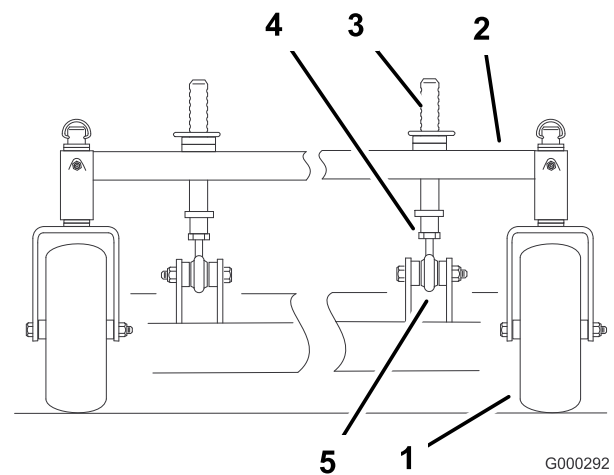

Figure 59
To change the front-to-rear pitch, the front height-of-cut posts can be adjusted (Figure 59).
To raise the front of the deck, loosen jam nut and rotate the front pin clockwise (Figure 59).
To lower the front of the deck, loosen jam nut and rotate the front pin counter clockwise (Figure 59).
- Measure at **C** and **D** locations (Figure 59) from a level surface to the cutting edge of the blades.
- Tighten the jam nuts (Figure 59).